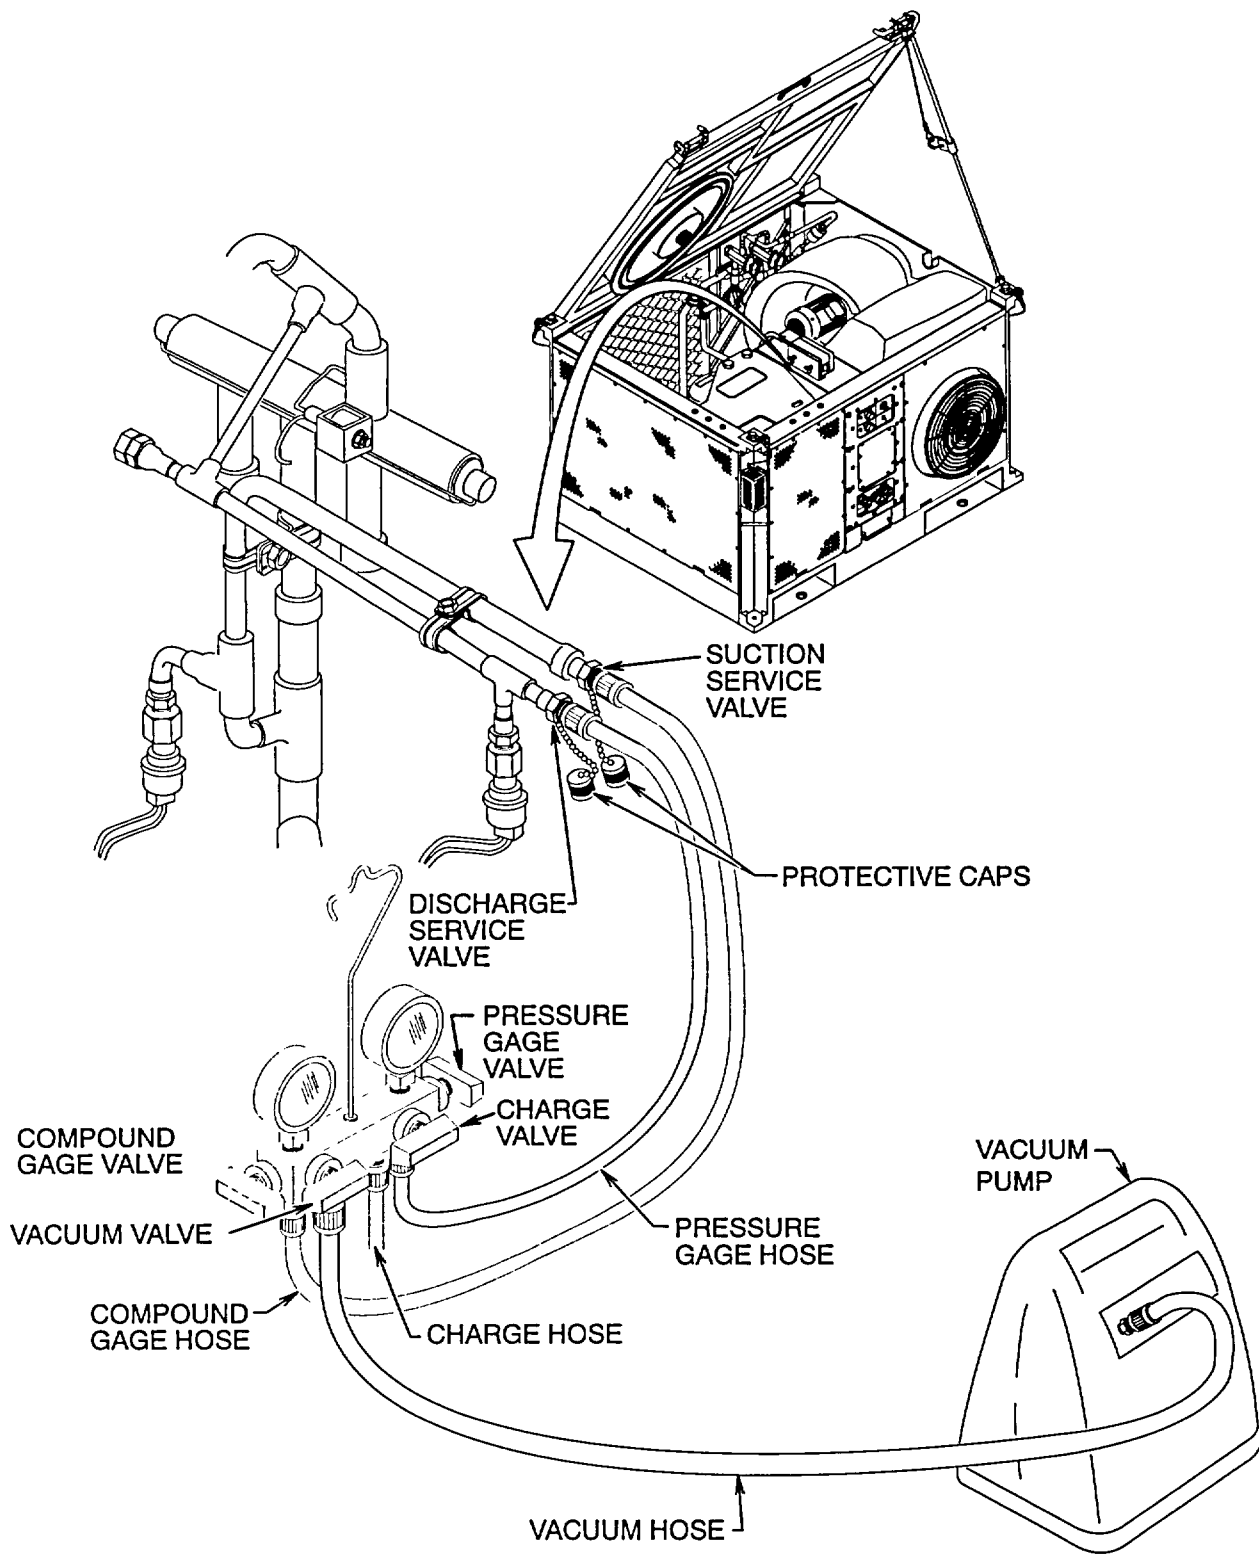

Figure 5-5. Evacuation of Refrigerant System
- a. **Evacuate.** See figure 5-5. The refrigeration system must be evacuated to remove all moisture and non-condensables before it is charged.
- (1) Remove and recover system refrigerant per paragraph 5.4.
- (2) Check that new filter- drier was installed. If not, install one per paragraph 5.16.
- (3) Check that service manifold charge valve is closed.
- (4) Connect the vacuum hose to vacuum pump and start pump.
- (5) Open service manifold high pressure gage, compound gage, and vacuum valves.
- (6) Run vacuum pump until at least 29 inches of mercury is measured on compound gage. Continue running vacuum pump for one more hour, while observing the compound gage. If gage needle moves back and forth, you have a leak which must be located and corrected per paragraph 5.7.